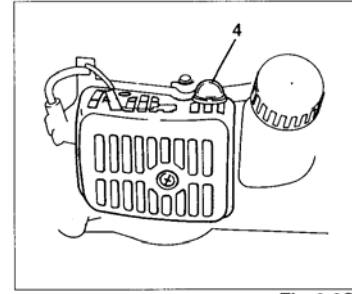
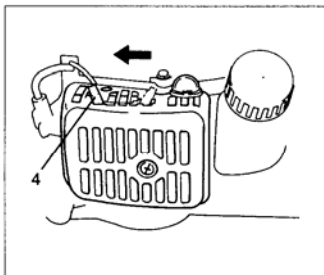

Fig. 2-2C
Fig. 2-3
\*Push priming bulb (4) several times so that fuel flows through the bulb or return pipe. (if so equipped)(Fig. 2-2C)
2. With the safety lever (2) pressed (if so equipped), pull throttle trigger and push lock button (3) (if so equipped), then slowly release the throttle trigger first, then the safety lever. This will lock the throttle in the starting position.
3. Set choke lever to CLOSED position (4). (Fig. 2-3)